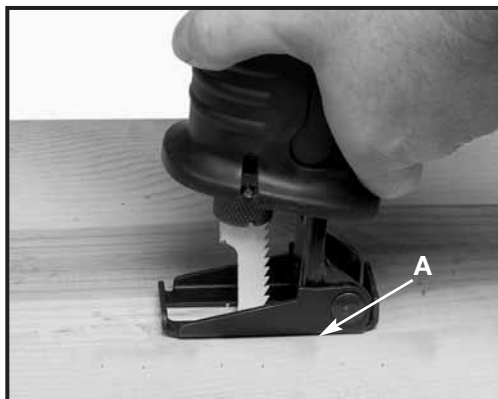

Fig. 10
The **Model 750** is supplied with a keyless *Quik-Change™* guide shoe. The pivoting guide shoe (A) Fig. 10, serves as a rest while making a cut and it can be adjusted to accommodate many types of cutting applications.